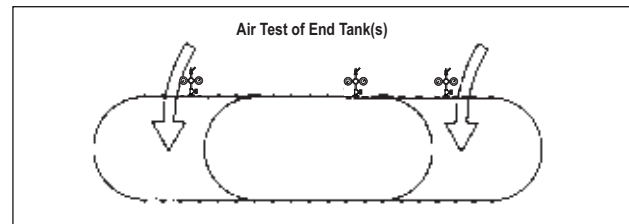

FIGURE 4-3
4.4.5. Pressurize the end tank(s). (See SECTION 3.4. and FIGURE 4-3.)
4.5.5. Pressurize the end tank(s). (See SECTION 3.4. and FIGURE 4-3.)